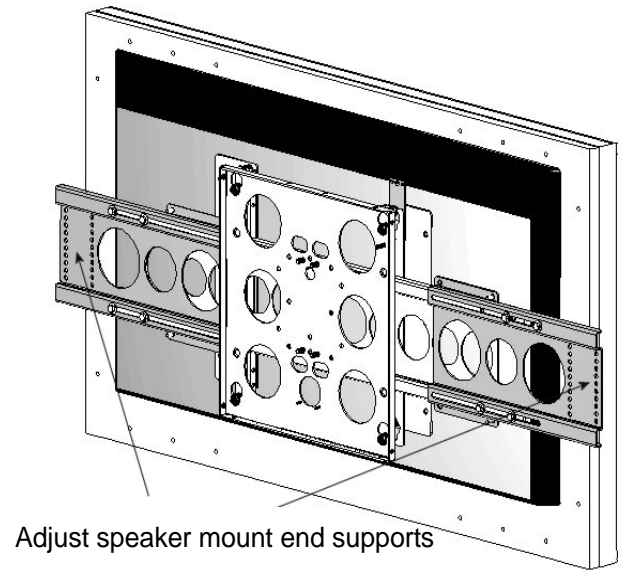

Figure 13. Speaker End Support Adjustment
1. Loosen (Do not remove) four 1/4-20X1/2" hex head cap screws (150) securing speaker mount end support (40) on each side of mount (see Figure 13)
2. Extend speaker mount end supports (40) to facilitate speaker attachment.
3. Place each speaker, with mounting bracket attached, at desired height on mount, align mounting holes, and secure using four 1/4-20X1/2" hex head cap screws (150).
4. Slide speaker mount end supports (40) to accommodate the desired position and secure in place by tightening 1/4-20X1/2" hex head cap screws (150).